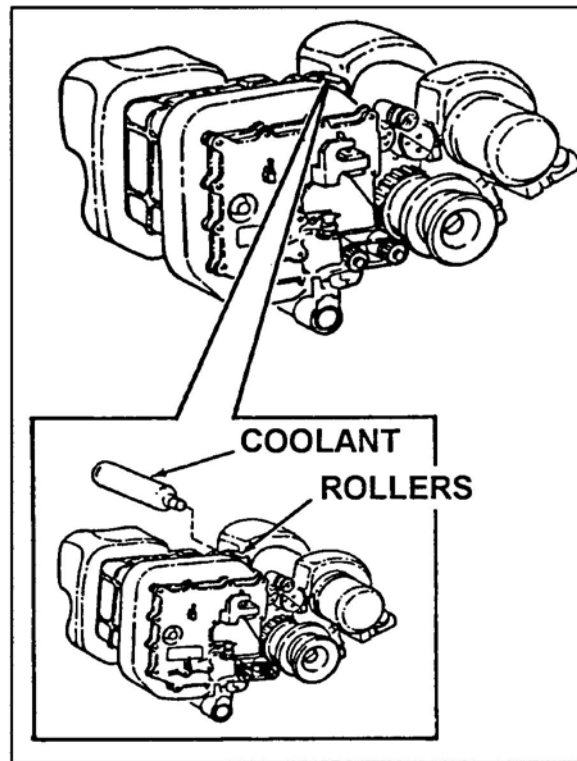

Figure 3. Removal and Installation of the Coolant Cartridge
- (3) Remove the coolant cartridge from the actuator assembly (Figure 3).